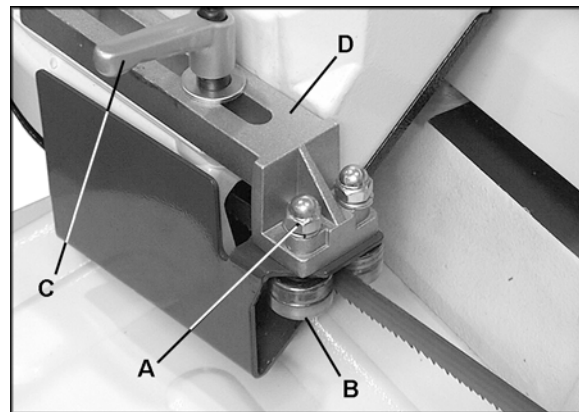

Figure 8
2. The front bearing (B, Figure 8) is mounted to an eccentric bushing and is adjustable. Loosen the cap nut (A, Figure 8) and rotate the front bearing (B, Figure 8) until the bearing just lightly contacts the blade. Do not pinch the blade.
3. Re-tighten cap nut (A, Figure 8).
5. There should be minimal exposure of the blade during cutting operations. Loosen the handle (C, Figure 8) and slide the blade guide assembly (D, Figure 8) as close to the workpiece as possible without interfering with the workpiece.